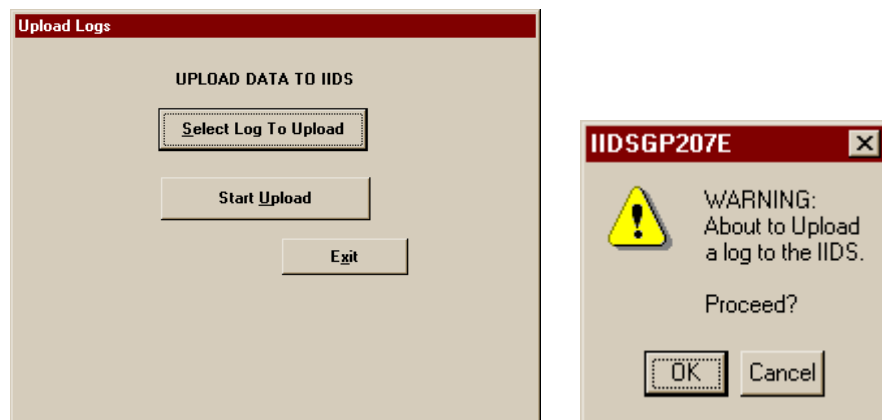
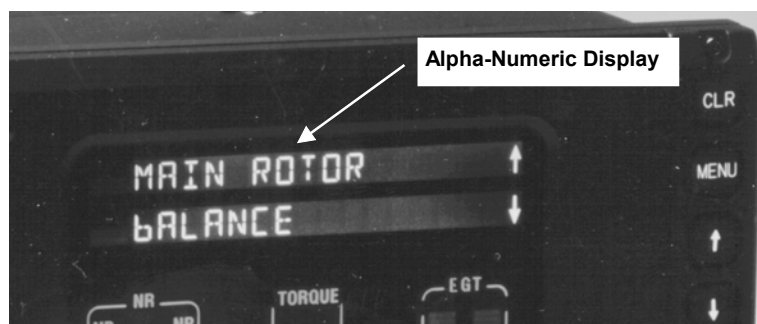

Figure 21. Start Upload Screens
Figure 22. IIDS Alpha-numeric Display
8. Click on the "**Start Upload**" control button. Click on "Ok" in the "About to upload" warning dialog box (refer to Figure 21) and wait for the indication that the communications has been completed successfully. When file transfer is complete the message "**DATA XFER CMPL**" will appear on the IIDS alpha-numeric display (refer to Figure 22).